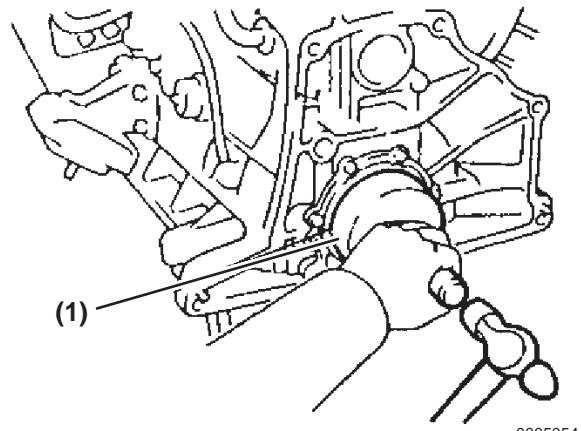

Figure 5-131
4. Using special tool P/N 119770-01130 (**Figure 5-131, (1)**), install the oil seal until its surface is level with that of the rear oil seal case.